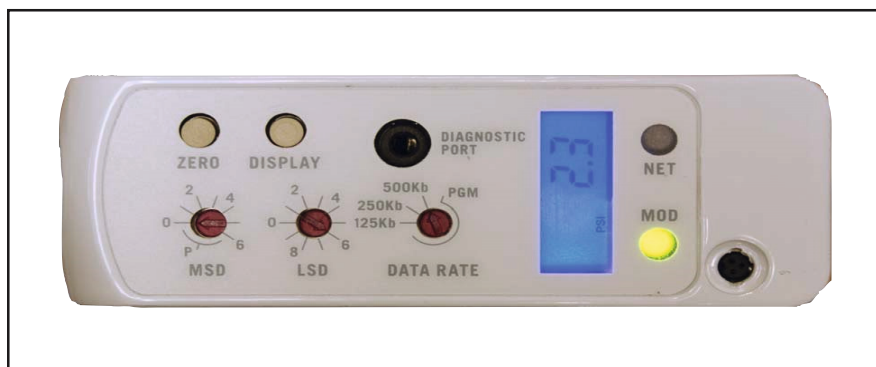

Figure 2-7 Display with PSI Reading
2. Looking at the top of the GF125/GF126 Series, press the “Display” button, starting at the MACID, four times to “PSI” or five times to “kPa” or until the LCD displays the labels “PSI” or “kPa”. The GF125/GF126 Series will display pressure in units of PSIA or kPa. Press and hold down the Zero button a minimum of 5 seconds or until the display reads 0.000, with the last two digits flickering at different values. The pressure transducer zeroing procedure can be done while the display is either in PSIA or kPa output. Refer to Figure 2-7.